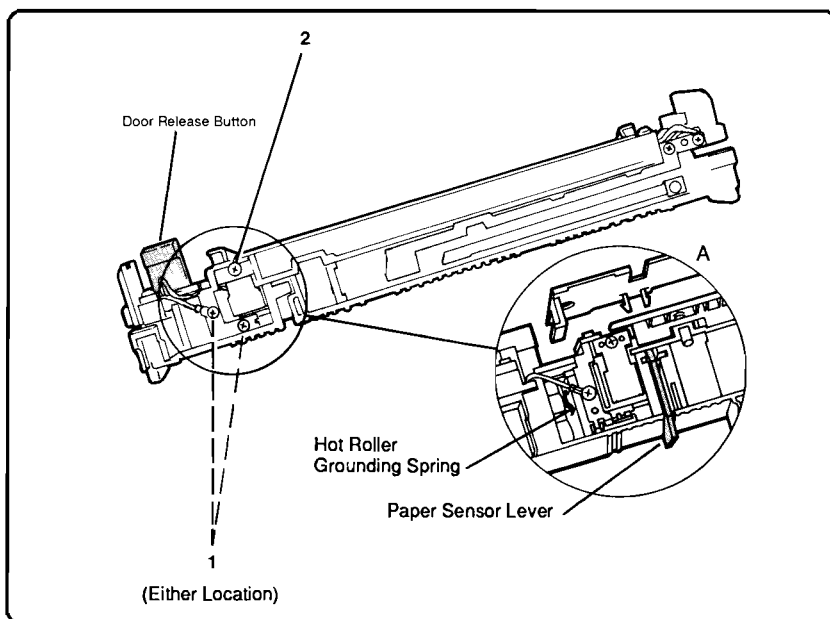

Figure 6-65. Thermistor (TH1) Removal (continued)
4. Remove the screw (1) securing the grounding wire (blue) from connector J502 (see Figure 6-65, callout 1).
5. Remove the screw (1) securing the Thermistor (see Figure 6-65, callout 2).